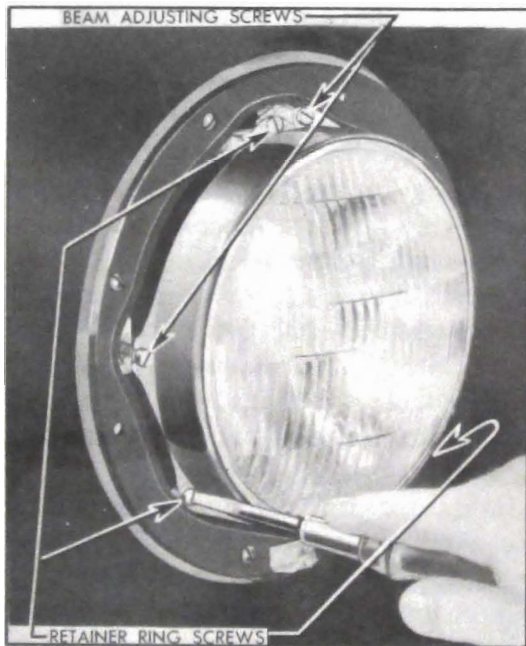

Figure 10-86—Removal of Sealed Beam Unit Retainer Ring
2. Remove the three retainer ring screws but do not disturb the two beam adjusting screws, then remove retainer ring. See figure 10-86.